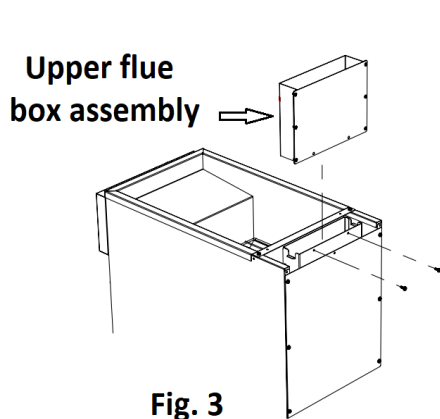

Fig. 3
- a) Place the upper flue box assembly on the lower chimney and secure with 2 screws E (Fig. 3).